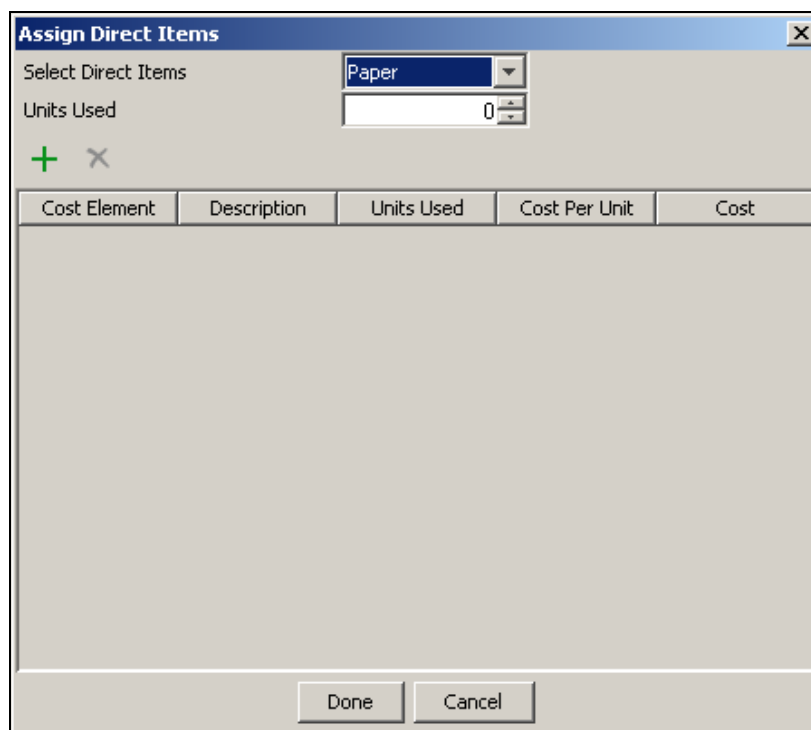

Figure 11: Assign Direct Resource
- To assign the direct resource used by the activity, click **Assign** in *Value* column of the *Assign Direct Items* property. The Assign Direct Items dialog box appears (see Figure 11).